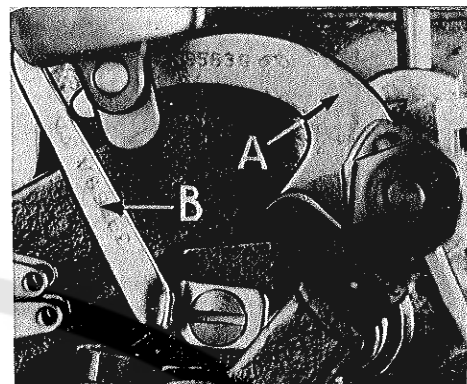

Fig. 4
On all Styles except 39500 QJ, QL, SJ and TG, if needle thread cam pull-off (A, Fig. 4) overlaps looper thread pull-off (B), separate by moving looper thread pull-off back. When retightening looper pull-off screw, be sure to take up end play in needle driving arm.